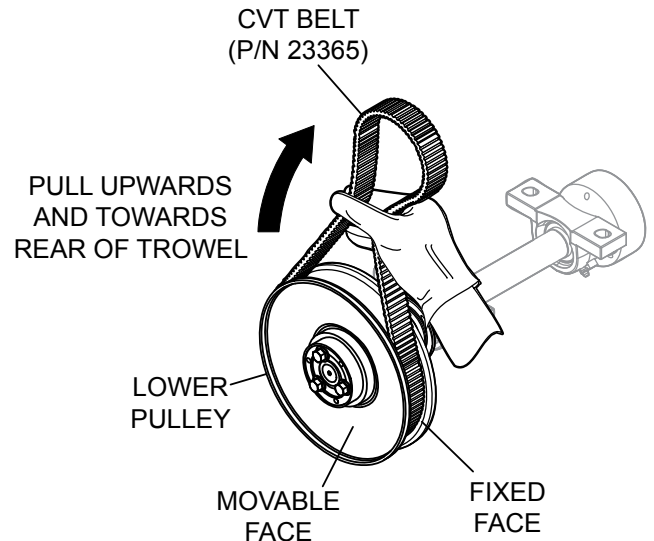

Figure 19. Holding Lower Pulley Open
1. With the CVT belt placed over the lower pulley, squeeze the belt (Figure 19) and pull the belt upwards and towards the rear of the trowel. This will spread open the faces of the lower pulley.